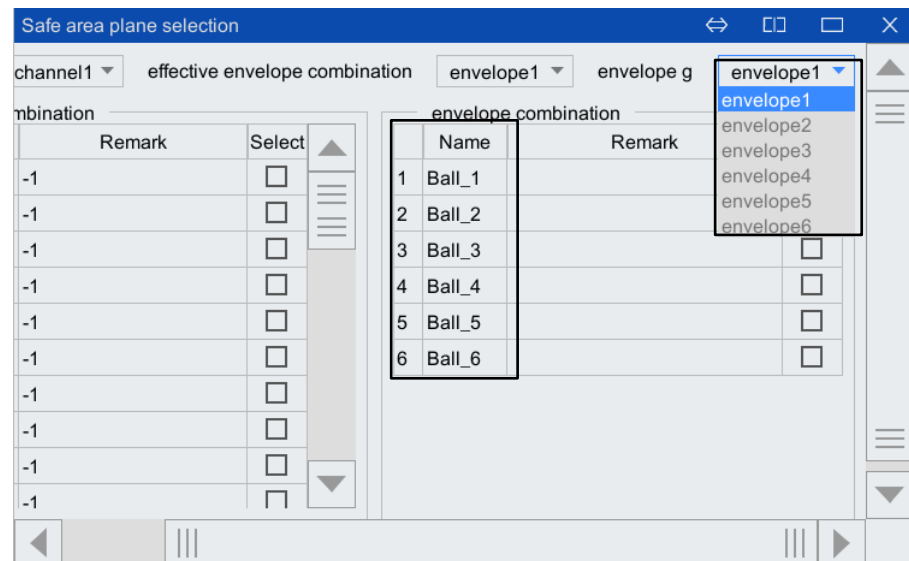
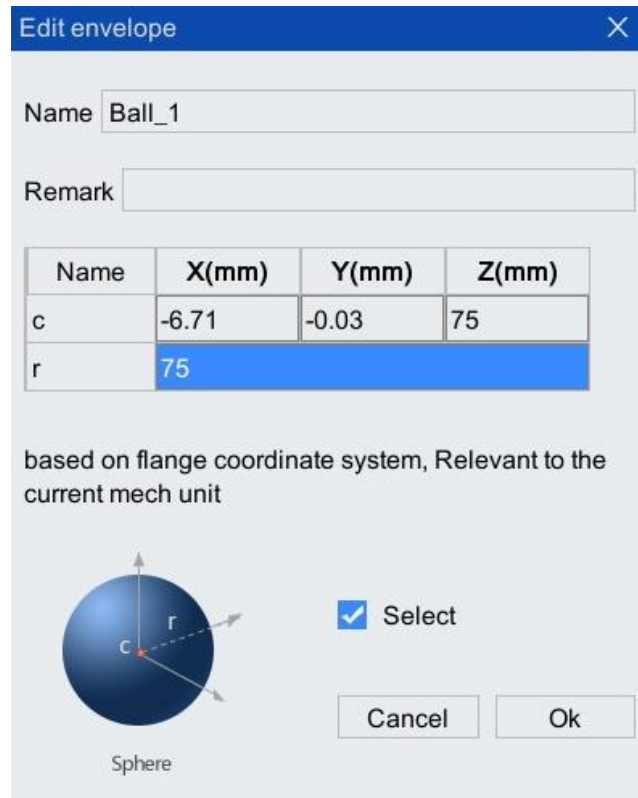

Figure 6-46 [Envelope] drop-down list
Figure 6-47 "Edit envelope" interface
Step1. Click the [Envelope g] drop-down list in Figure 6-46. There are 6 sets of envelopes to choose from. Each set of envelopes can set up to 6 envelope balls (Ball), that is, one tool can have up to 6 envelopes. Enveloping the ball, the specific use of several enveloping balls can be customized by the user.
Step2. Click the row of any tool ball (Ball) in the [effective envelope combination] box in Figure 6-46 to set the envelope ball in the pop-up [Envelope combination] interface, as shown in Figure 6-47. As shown, the content description in the [Envelope combination] interface refers to Table 6-25.
Step1.Click the row of any zone (Zone) in the [Zone Combination] box in Figure 6-46, and the [Zone Edit] interface shown in Figure 6-52 will pop up.